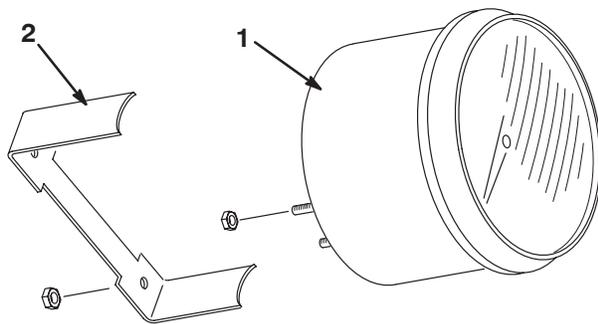

Figure 1
5. Remove the 2 hex nuts that secure the tachometer clamp to the tachometer (Fig. 1).